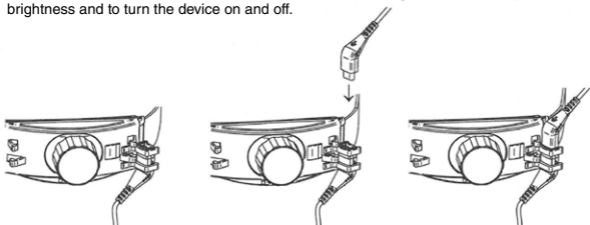

Fig. 8
To set up the HEINE® ML4 LED with HEINE® mPack or HEINE® EN50, connect the short cord from the brightness control with the connecting cord mPack UNPLUGGED/ Cinch and fix this to the back part of the headband (Fig. 8). Connect the instrument to the Cinch-socket of the mPack or EN 50. The rheostat (1) (Fig. 6) is used to adjust the brightness and to turn the device on and off.